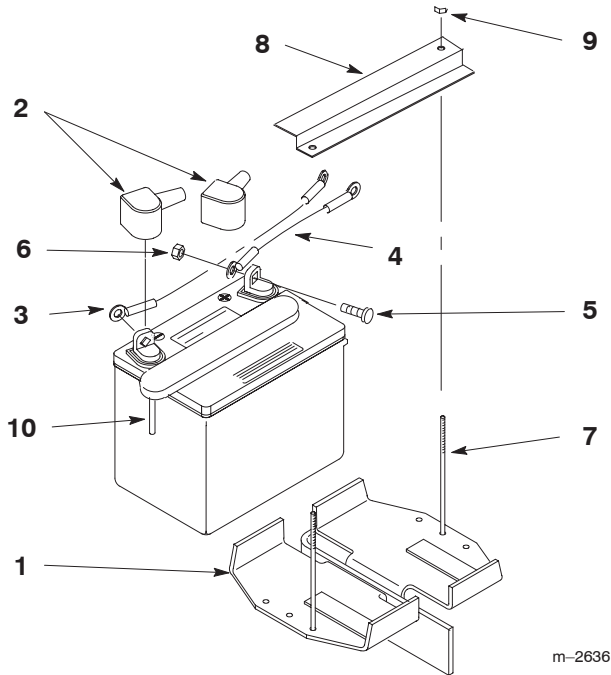

Figure 7
4. Position battery onto holder with terminal posts away from the engine (Fig. 7).
7. Mount battery to holder with 2 support rods, a battery clamp and 2 locknuts (1/4 inch). Position support rods in mounting holes (Fig. 7). Tighten locknuts so battery is held securely in position and will not slide. **Do Not overtighten.**